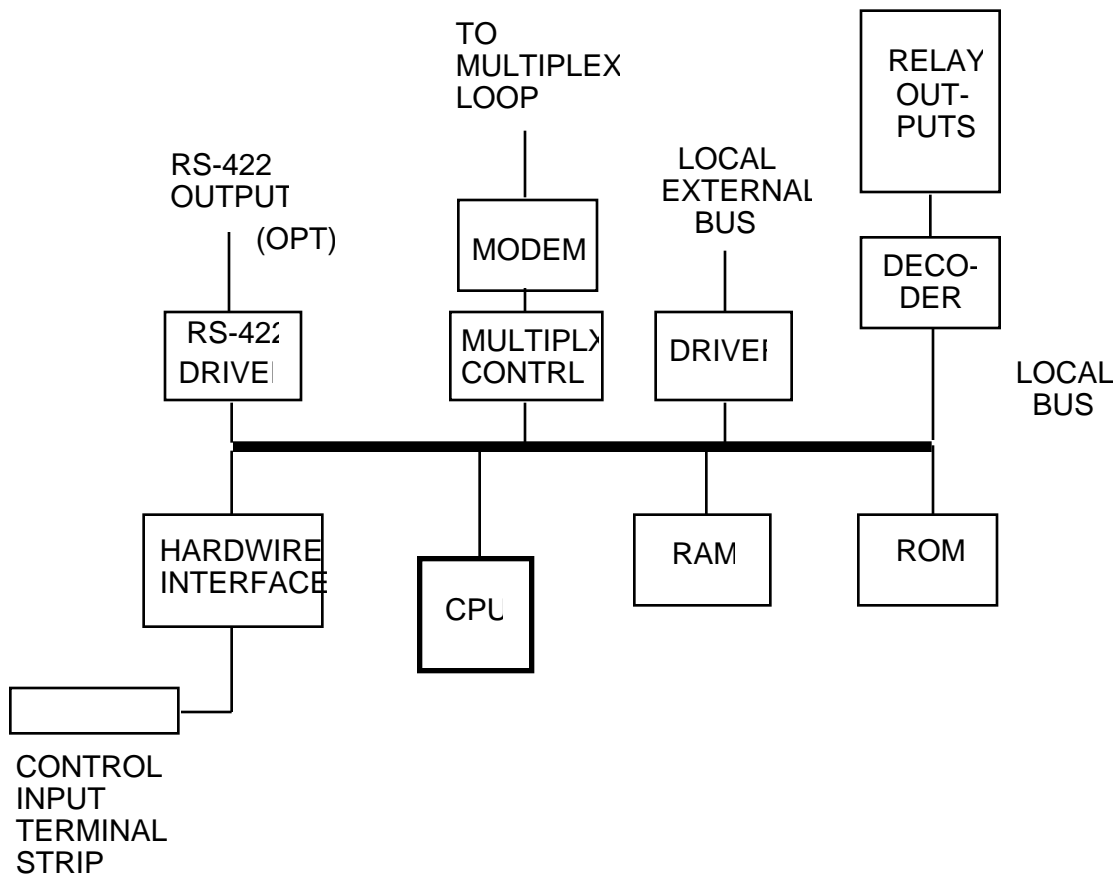

Figure 2-1
2.2.3 A block diagram of the DCU is contained in Figure 2-1. The layout of a DCU unit is shown in Figure 2-2.